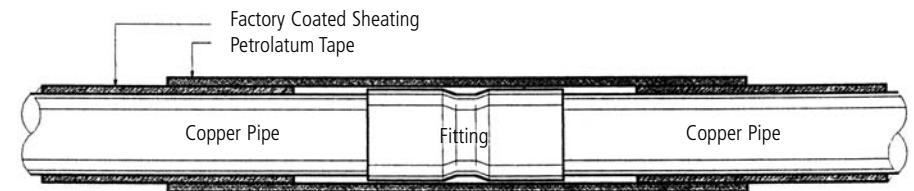

FIG. 3 PROTECTION FOR PIPES AND JOINTS
- 4.1.2 Where embedded pipes are exposed to excessive moisture or corrosive substances, the piping shall be adequately protected by sheathing in a water tight coating using factory applied polyethylene coated pipe and/or the use of petrolatum impregnated protective tapes. (Fig. 3)